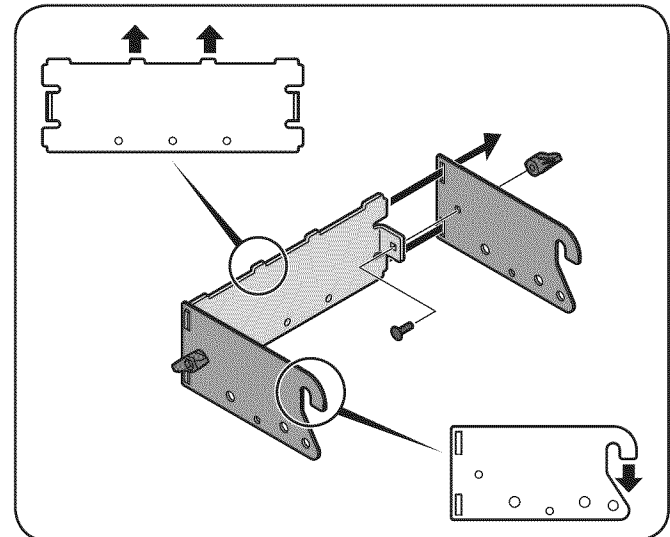

Figure 3
1. Attach the two hitch side brackets to the universal rear attachment bracket using two carriage bolts (710-0276) and wing knobs (720-04122) from hardware pack 689-00312. See Figure 3.
Note: The hooks on the side brackets should point downwards and the tabs on the rear plate point upwards as shown in Figure 3.